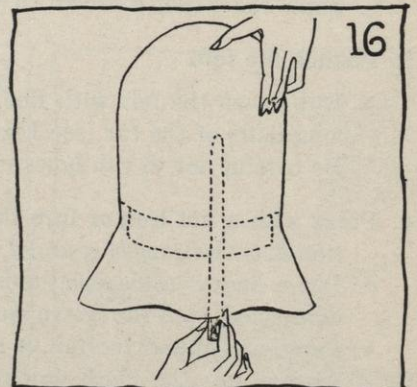

FIG. 16.
- a. Slip a whalebone under the felt and against the block to loosen it. Be careful not to stretch the felt (see Figure 16). Gently pull the crown up and off the block.